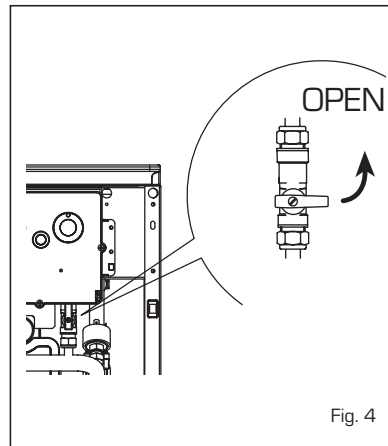

Fig. 4
2.2.1 System filling (fig. 4)
screw back to its original position. At the end of the operation make sure that the tap is closed (fig. 4).